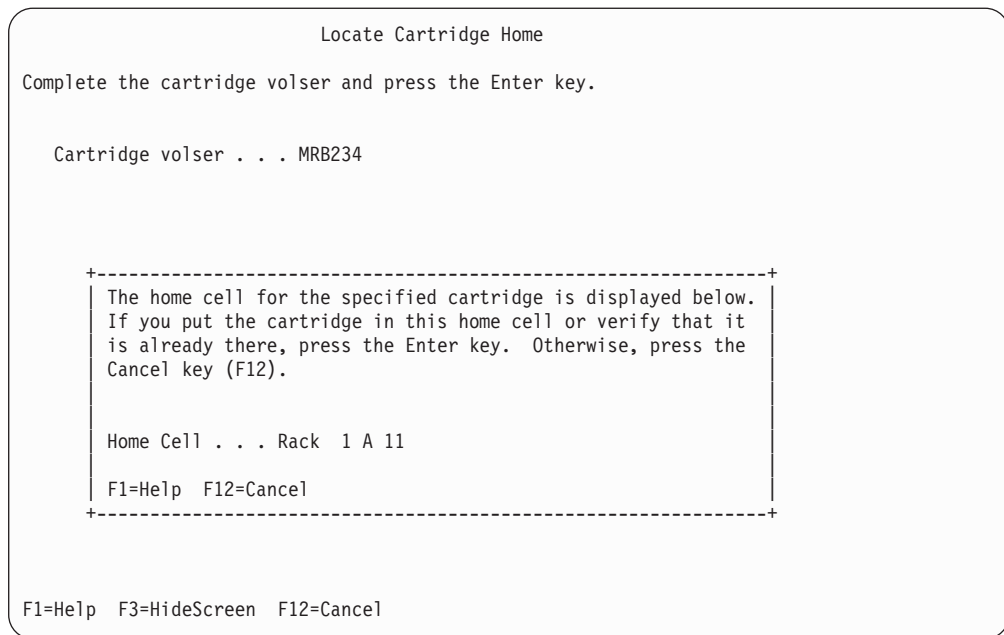

Figure 148. Manual Mode Locate Cartridge Home Screen
- For an extended period of Manual mode, you may choose to use the Figure 148 on page 238 to put the cartridges in their home cells.
If the volume was not listed on the Review List screen (see Figure 146 on page 236), use the Locate Cartridge Home screen to find a storage cell in which to put the volume. See Figure 148 on page 238.
2. Enter the volume to find its home cell and then press the Enter key. The home cell for the volume is displayed on the Locate Cartridge Home screen. See Figure 148 on page 238.